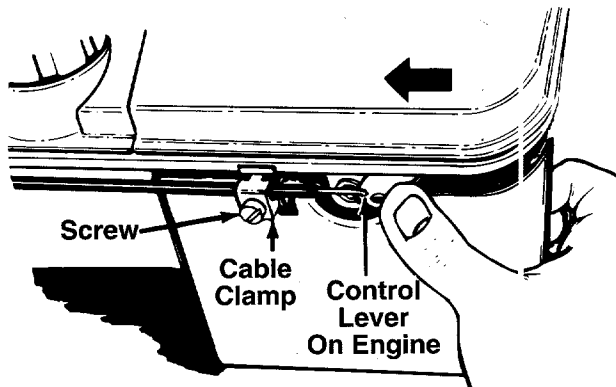

FIGURE 10.—Briggs and Stratton Engine Shown
1. Remove the screw shown in figure 10. Remove the cable clamp from the cable.